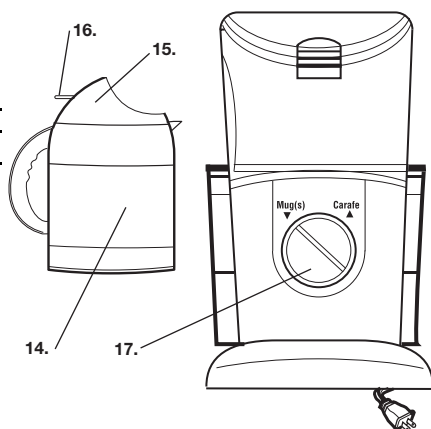

FIGURE 2
3. Using the Thermal Mug/Carafe Dial located on the back of the Coffee Maker (see Figure 2), turn the Dial clockwise to raise the Coffee Maker to the Carafe (upper) position. Turn the Dial counter-clockwise to lower the Coffee Maker to accommodate one or two Thermal Mugs.